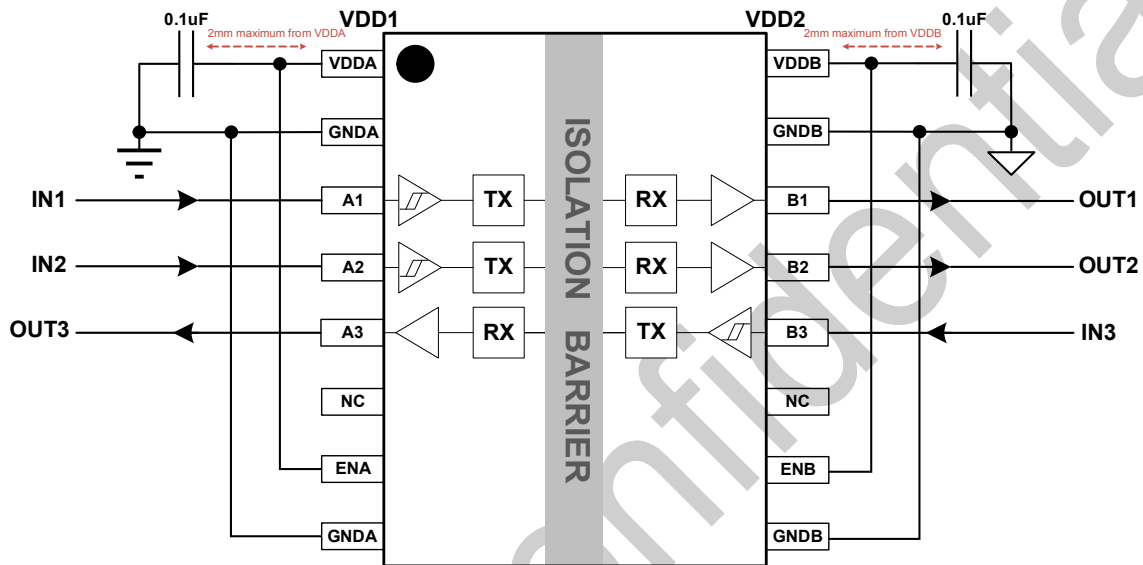

Figure 9-1 Typical Application Circuit
The V3163 use a simple ON-OFF keying (OOK) modulation scheme to transmit signal across the SiO₂ isolation capacitors that provide a robust insulation between two different voltage domain and act as a high frequency signal path between the input and the output. The transmitter (TX) modulates the input signal onto the carrier frequency, that is, TX delivers high frequency signal across the isolation barrier in one input state and delivers no signal across the barrier in the other input state. Then the receiver rebuilds the input signal according to the detected in-band energy. If the ENx pin is low then the output goes to high impedance state and will be pulled up to V_{DDO}. This simple architecture offers a robust isolated data path and requires no special considerations or initialization at start-up. The capacitor-based signal path is fully differential to maximize noise immunity, which is also known as common-mode transient immunity. Advanced circuitry techniques are applied for better EMI introduced by the carrier signal and IO switching. The capacitively-coupled architecture provides much higher electromagnetic immunity compared to the inductively-coupled one. And OOK modulation scheme eliminates the missing-pulse error that occurs in the pulse modulation method. A simplified functional block diagram and conceptual operation waveforms of a single channel is shown in Figure 9-1 and Figure 9-2.